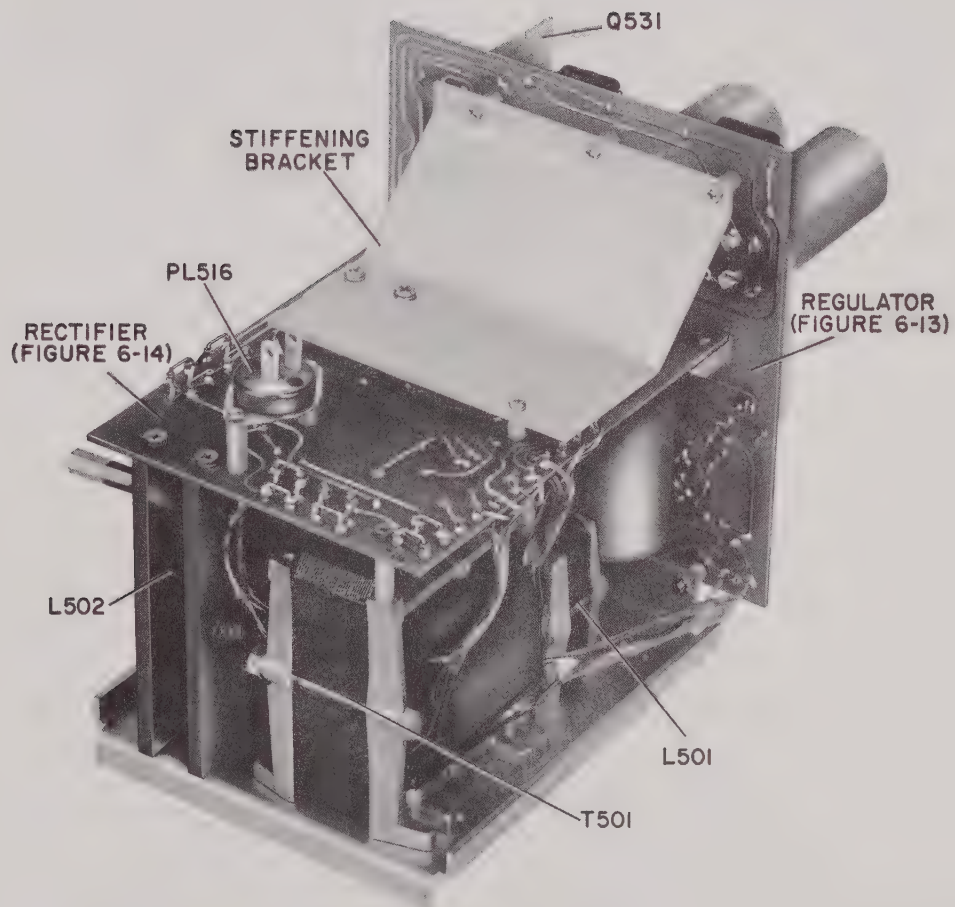

Figure 5-17. Power-Supply Assembly.
5.8 POWER SUPPLY SERVICE (FIGURE 5-17).
Normal operating voltages at the various capacitors, Zener diodes, and transistors used in the regulators are given in Table 5-14. The voltages associated with the preregulators and the +220-V regulator can be checked without removing the power supply from the instrument, but it is necessary to remove the stiffening bracket from the power supply (see Figure 5-17).